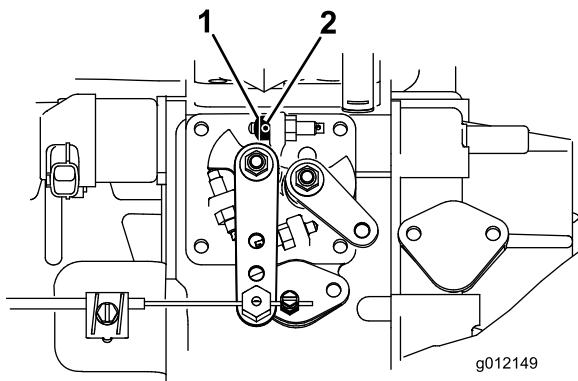

Figure 7
1. Loosen the set screw on the throttle stop (Figure 7).
2. Slide the throttle stop onto the high idle stop screw (Figure 7). The chamfered end of the throttle stop is to be positioned outward.